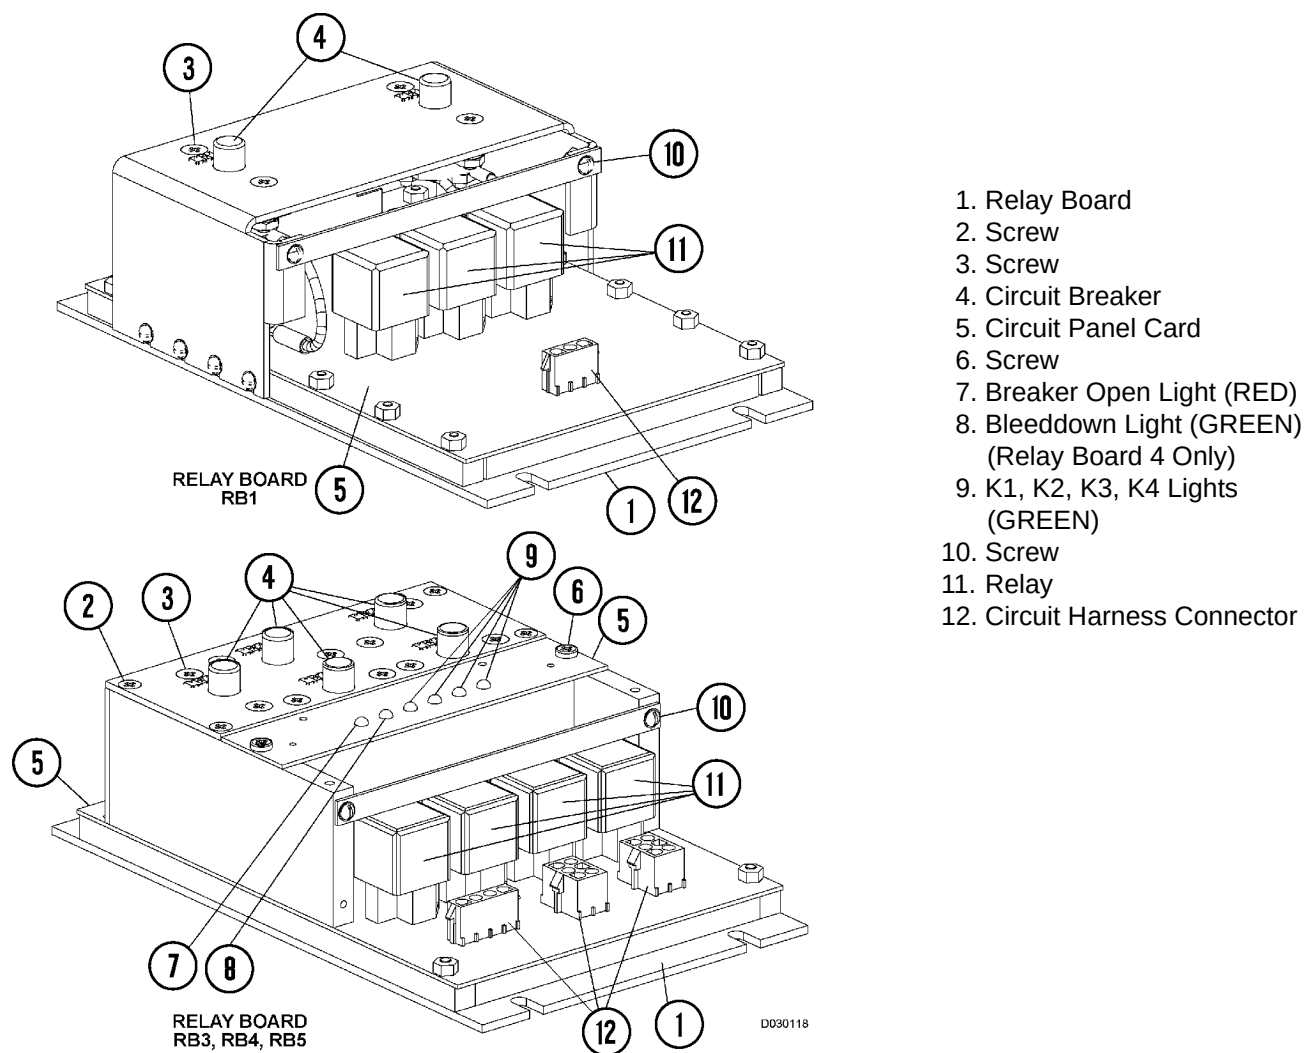

FIGURE 3-6. TYPICAL RELAY BOARDS - RB1, RB3, RB4, RB5
Each relay board of this type is equipped with four green lights (9, Figure 3-6) and one red “breaker open” light (7). Each relay board has a fifth green (8) light that has a different function on each board.
1. Remove one screw (10, Figure 3-6) holding the crossbar in place and loosen the other screw.
3. Gently wiggle and pull outward to remove relay (11).
5. Place the crossbar in its original position and install screw (10). Tighten both screws.
3. Remove four hold down screws (2, Figure 3-6) (one in each corner) in the circuit breaker cover plate. Remove two screws (6) and card (5).
8. Carefully install card (5) with screws (6).
2. Remove the two mounting screws (6, Figure 3-6) and carefully remove the circuit panel card from the relay board.
4. Install two mounting screws (6).